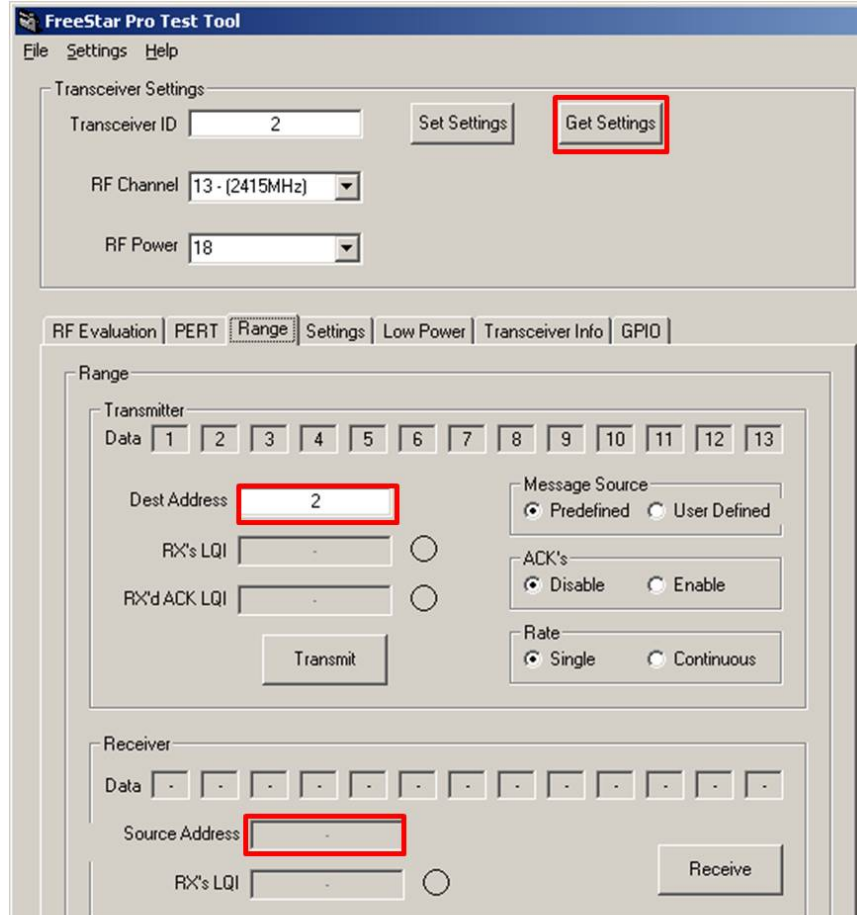

Figure 23 – Screen, Test Tool – Range Tab
In the '**Transceiver Settings**' Section of the screen in Figure 23:
- 8) In the '**Range – Transmitter**' Section of the screen in Figure 23, click '**Predefined**' in the '**Message**
- 6) In the **'Range – Receiver'** Section of the screen in Figure 23, start the Receive test by clicking the **'Receive'** button.